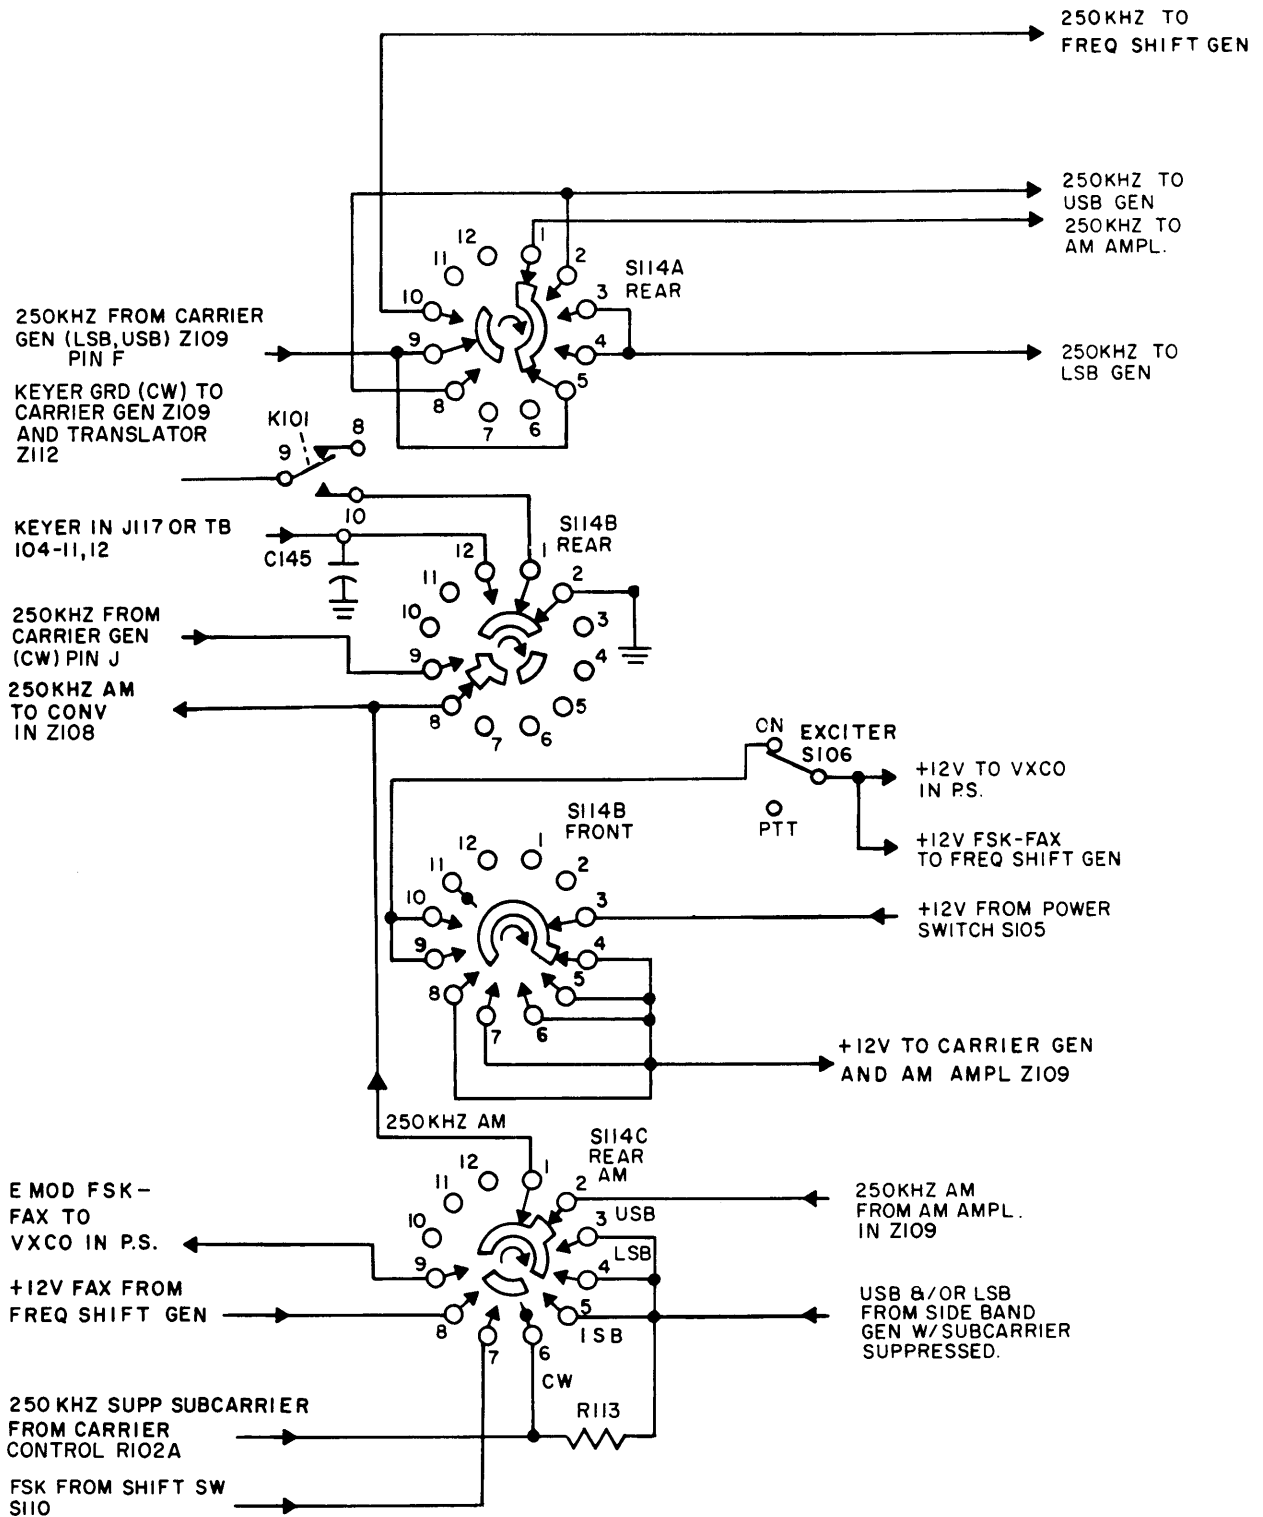

Figure 4-4. CW, FSK, and FAX Mode Switching, Simplified Schematic Diagram
(2) The remaining decks of MODE switch S114 (C rear, B front and rear, and A rear) perform independent functions such as 250 kHz subcarrier and AM distribution and reinsertion, and CW, FSK and FAX selection. (See figure 4-4.) The 250 kHz subcarrier output from carrier generator Z109 is applied to S114A (rear) at contacts 9 and 5. With the MODE switch in the AM position, the subcarrier is channeled to the AM amplifier in Z109; in the USB, LSB and ISB positions, the 250 kHz subcarrier is applied to either the respective sideband generator circuit in Z107, or to both sideband generator circuits simultaneously. Deck S114B (front) of the MODE switch distributes +12 vdc operating potential to 2.75 MHz carrier generator and AM amplifier circuits in Z109 in the AM, USB, LSB, ISB and CW positions. (See figure 7-1.) In the FSK and FAX positions, +12 vdc is routed through the ON position of EXCITER switch S113 to frequency shift generator Z108 and the 3 MHz variable crystal controlled oscillator (VXCO) in the power supply assembly. The amplitude-modulated 250 kHz output from the AM amplifier circuit in Z109 is supplied to the AM position of S114C (rear) and is supplied to the converter section of frequency shift generator Z111. In the USB, LSB and ISB positions of S114C, sideband audio intelligence, with a suppressed 250 kHz subcarrier, is supplied from either or both sideband generator circuits to contacts 3, 4 and 5. The SSSC input is added to the 250 kHz subcarrier signal from CARRIER control R102A through isolation resistor R113. The amount of subcarrier injection depends on the position of R102A and consists of continuously variable injection from zero (0) to full. When subcarrier injection is desired, the resultant USB and/or LSB audio intelligence is accompanied by a 250 kHz pilot carrier and is supplied to the converter section of Z108.